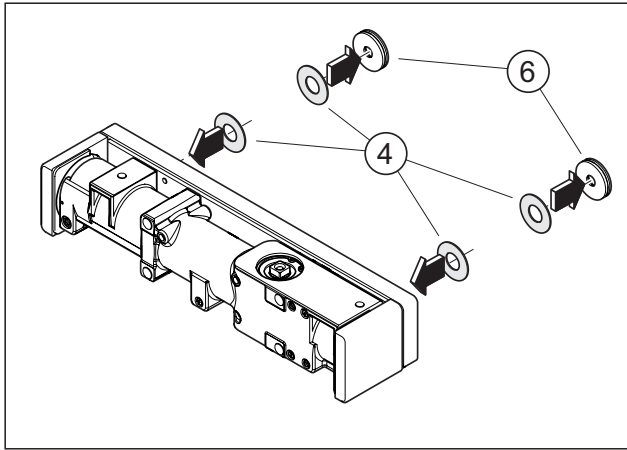

Fig. 9 Install the gaskets as glass protection
1. Attach the gaskets to the carrying plate and the system fixers as glass protection (Fig. 9).